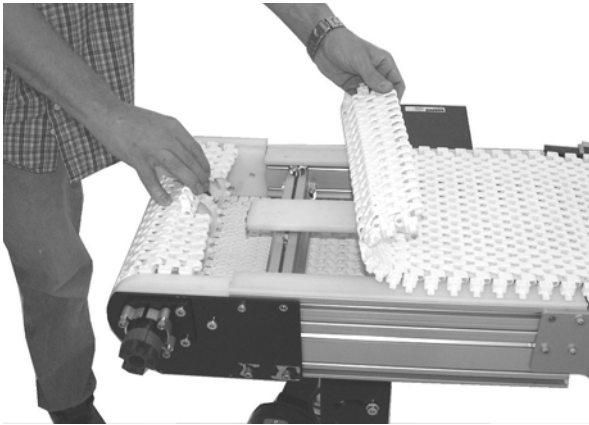

Figure 19
8. Bring the ends of the belt together (**Figure 19**).